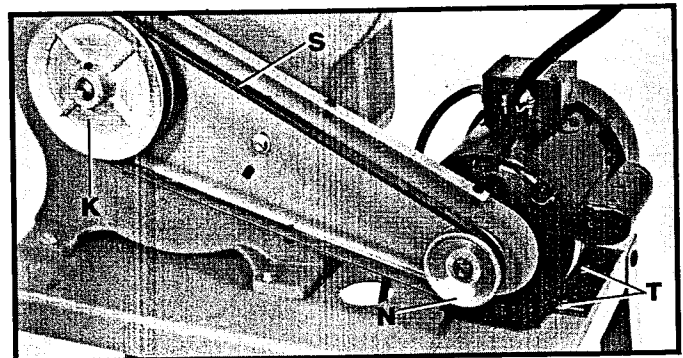

Fig.15
7. Assemble drive belt (S) Fig. 15, to the arbor pulley and motor pulley as shown. Using a straight edge, check to see if the arbor pulley (K) and the motor pulley (N) are aligned. If an adjustment is necessary, both pulleys can be moved in or out to obtain proper alignment. Adjust for proper belt tension by moving the motor in or out by loosening four mounting bolts, two of which are shown at (T). Correct belt tension is obtained when there is approximately 1/2 inch deflection at the center span of the belt (S) Fig. 15, using light finger pressure. **NOTE:** When proper belt tension is obtained and both pulleys are aligned, make certain to tighten all mounting hardware.